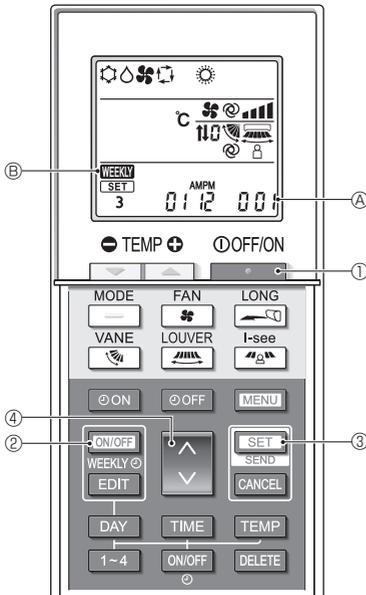

Fig. 6-1
6.1. Switching to the function setting mode (Fig. 6-1)
1. Press the **ON/OFF** button ① to stop the air conditioner.
- If the weekly timer is enabled, press the **ON/OFF WEEKLY** button ② to disable the timer. (**WEEKLY** disappears.)
2. Press the **SET** button ③ for 5 seconds.
6.2. Entering the group model setting number (Fig. 6-1)